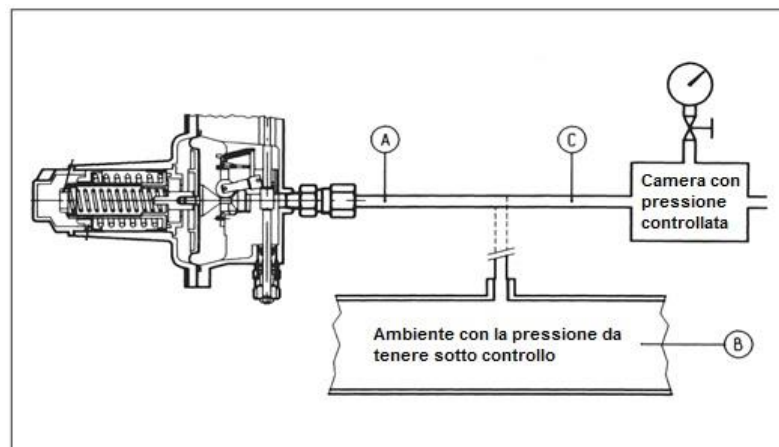

Figure 20
- B) For devices not equipped with "push" valve (fig. 20), it is recommended to separately connect the control head to a controlled auxiliary pressure and repeat the operations described above.